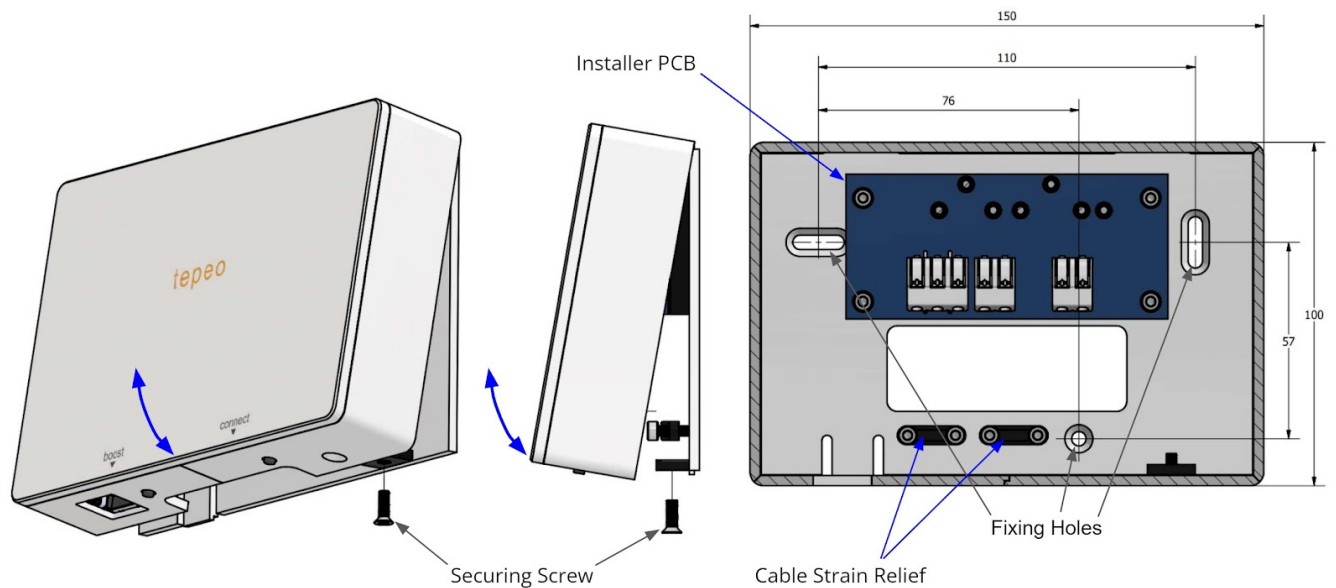

Figure 7: Comms Box outer casing install and removal
- Use the mounting holes on the backplate of the communications box to securely mount it to the wall, as shown in **Figure 7. Note; all three fixing locations on the back plate must be used.**